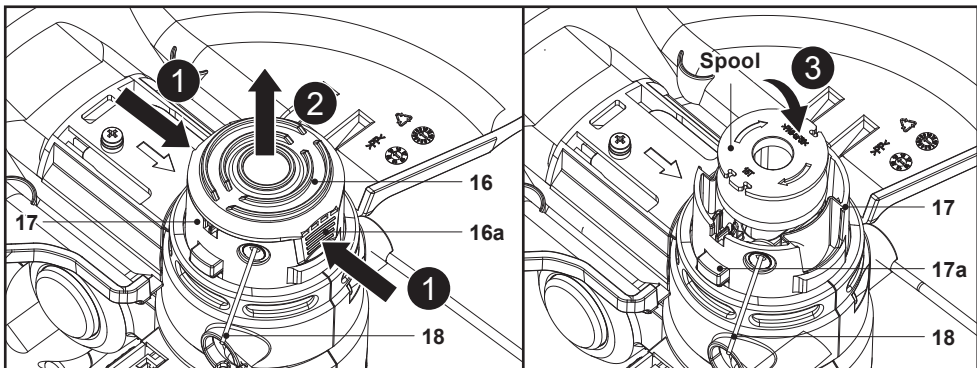
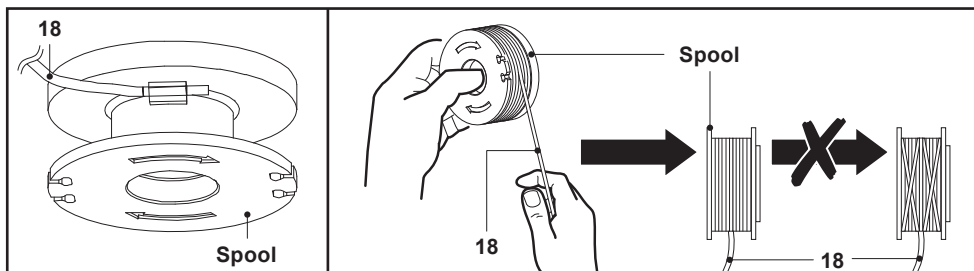

Fig. 10
Fig. 11
1. Remove the battery pack (19).
2. Open the spool housing (17): Press simultaneously both spool cap releases (16a) of the spool cap (16) (Fig. 10). You can use a tool (e.g. a screwdriver) to lift the spool cap.
3. Remove the spool cap (16) (Fig. 10).
5. Guide the end of the cutting line (18) of the new spool out of the slot of the spool housing (17). Pull approx. 15 cm of the cutting line outside the spool housing.
6. Insert the new spool into the spool housing (17) (Fig. 10).
7. Put the spool cap (16) back onto the spool housing (17). Make sure that the spool cap releases (16a) engage into the recesses on the spool housing.
5. Discard all the remaining cutting line (18) from the spool.
6. Clean the spool housing (17) and the spool.
7. Cut a new 4 m long cutting line (18) with a diameter of 1.6 mm.
8. Lead one end of the new cutting line (18) through the small eyelet on the spool in direction of the arrows (Fig. 11).
9. Wind all the cutting line (18) firmly around the spool in direction of the arrows on the spool (Fig. 11).